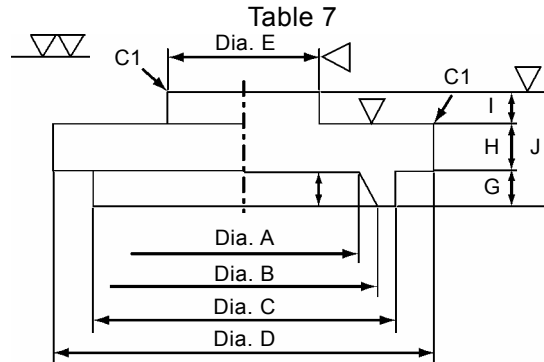

Figure 8: Special Tool for Press Fitting of Dust Seal
7. For special tool for press fitting of dust seal (12): Refer to figure 8 + table 7